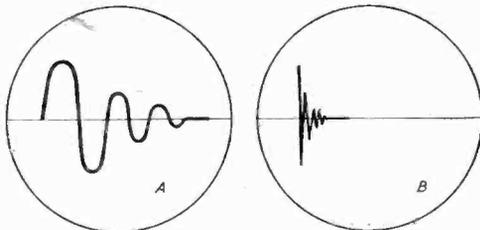

Fig. 2.—Waveforms obtained from the faulty transformer.
This setting need only be very approximate. With the gain of the 'scope turned well up, a wave-form will be observed as in Fig. 2 (A) or Fig. 2 (B).
A faulty transformer will give an indication as in Fig. 2 (B). It should be remembered that any other component which may be faulty, and is connected across the transformer, can give the fault indication shown in Fig. 2 (B).
When making this test the television must be disconnected from the power point. If on making the first test the fault indication is obtained, other components should be progressively removed from circuit. Disconnect the line-scan coils, then width coils, etc. If on removing a component from circuit the "no fault" indication Fig. 2 (A) shows on the 'scope, the part removed is faulty. For instance, it will sometimes be found when testing the Pye model V4, VT4 or VT7 Series Television that the shorted turn is in the width-adjusting coil. In this type of receiver, which has high or medium impedance deflector coils, the "ringing" test can be made